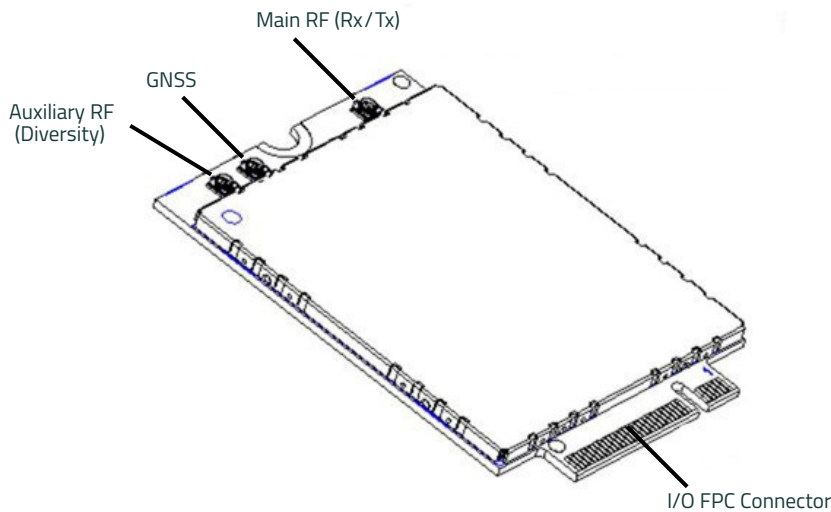

Figure 3-1: Module Connectors
- Connect to system ground using the mounting hole shown in Figure 3-1 on page 30.